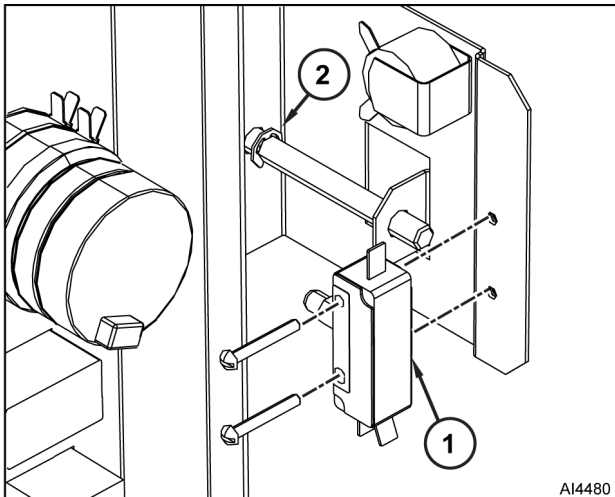

Fig. 60
- Disconnect wiring from switch (1, Fig. 60).